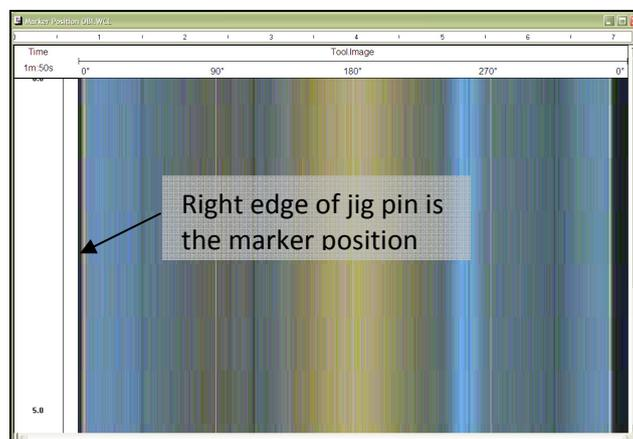

Figure 5-4 WellCAD window showing jig pin
Record a file in time mode using the higher azimuthal resolution (720). Import the data file into WellCAD or use the WellCAD Browser (Figure 5-4). Ensure that no orientation is set for the image. The angular position of the pin edge can be read off the status bar by selecting the log and positioning the cursor on the **right edge** of the image of the pin. It is this value which must correspond to the marker position parameter of the *.sub file.